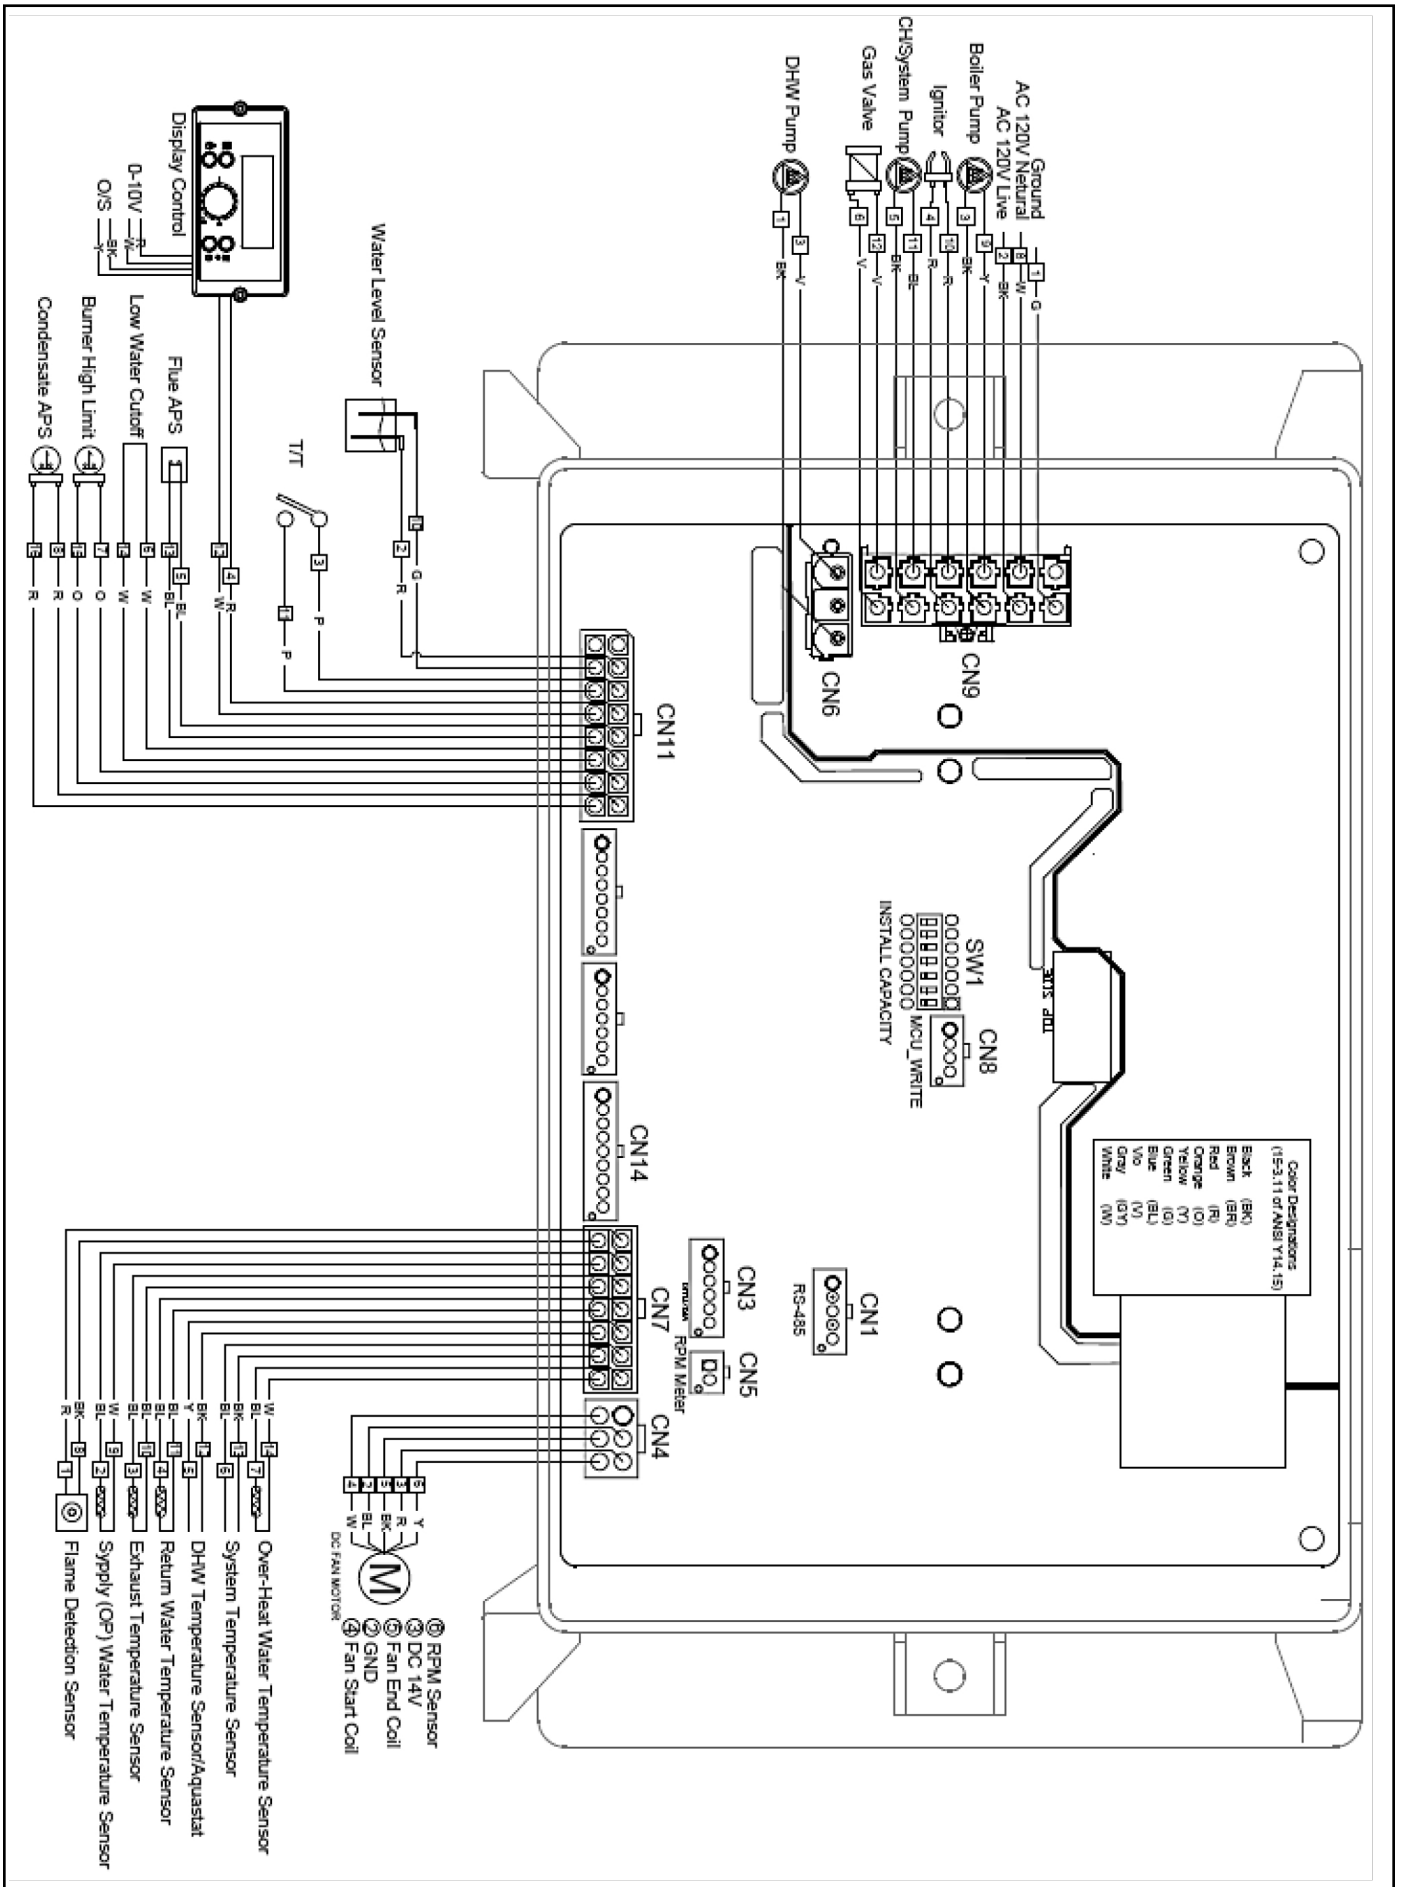

Figure 44 - Electrical Wiring Diagram
2. Connect the system sensor to the Master low voltage terminal strip. See Figure 44. Thermostat / outdoor sensor / 0-10V must be connected to the Master only.